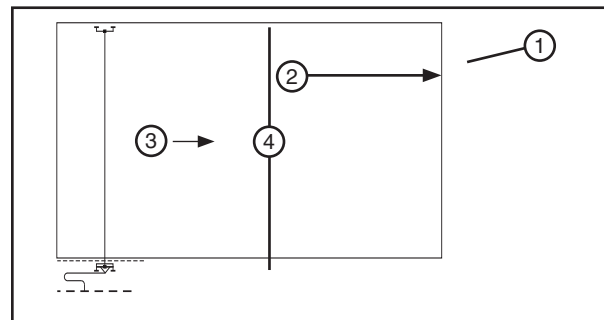

Figure 39-3 1. Field 2. Direction of Travel 3. Wet 4. STOP
1. The percentage timer is set at the desired application rate and the system is started at one end of the field and run wet (irrigating) to the middle of the field and stopped. See figure 39-3.